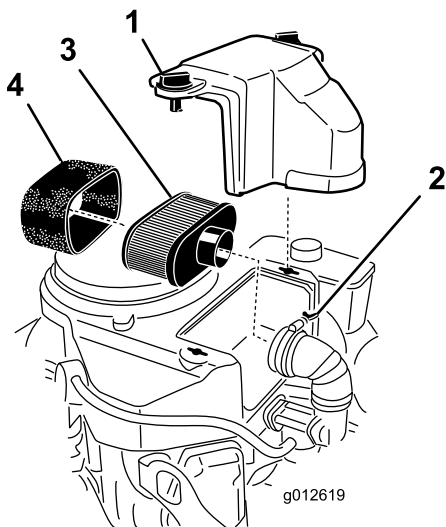

Figure 43
3. Clean around the air cleaner to prevent dirt from getting into the engine and causing damage (Figure 43).
4. Loosen the cover knobs and remove the air-cleaner cover (Figure 43).
5. Loosen the hose clamp and remove the air-cleaner assembly (Figure 43).
6. Carefully pull the foam element off the paper element (Figure 43).
1. Clean the paper element by tapping it gently to remove dust. If it is very dirty, replace the paper element (Figure 43).
1. Carefully slide the foam element onto the paper element (Figure 43).
2. Place the air-cleaner assembly onto the air-cleaner base or hose and secure it (Figure 43).
3. Place the air-cleaner cover into position and tighten the cover knobs (Figure 43).